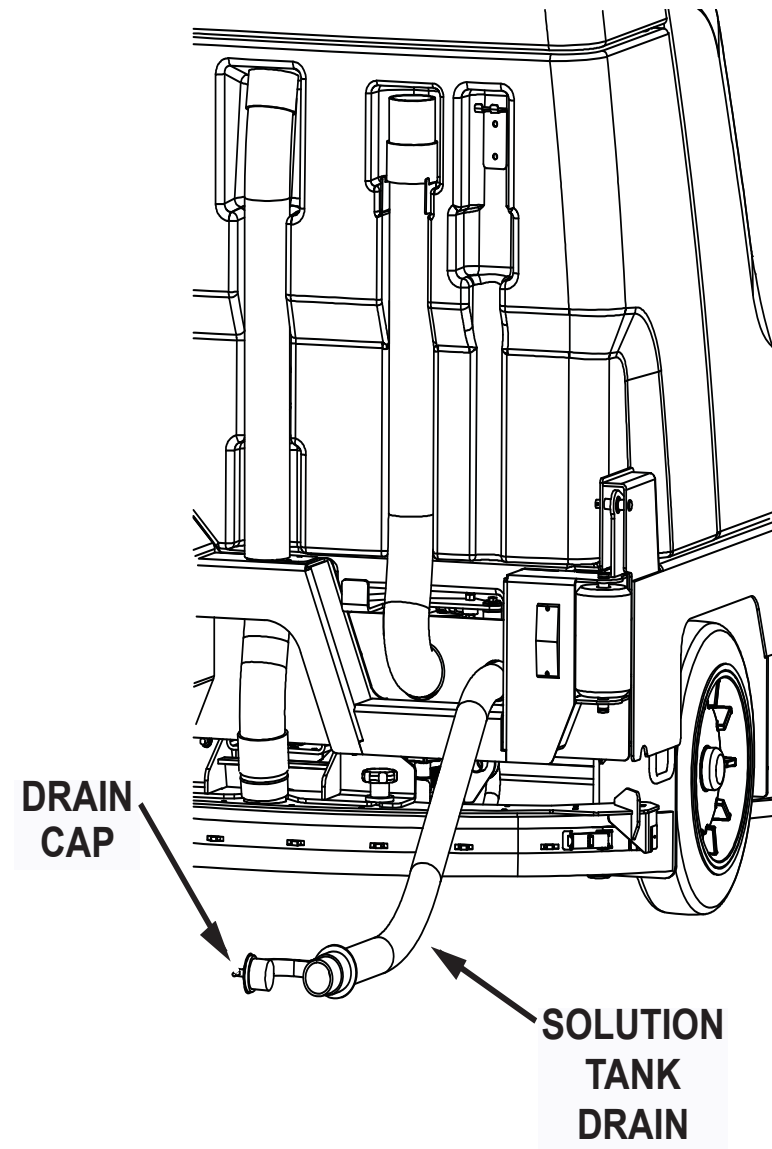

Fig. 1: Draining the Solution Tank
3. Grab the end of the solution tank drain and lower slowly to the floor near floor drain. (See Fig. 1)
4. Loosen and remove the cap. (See Fig. 1)